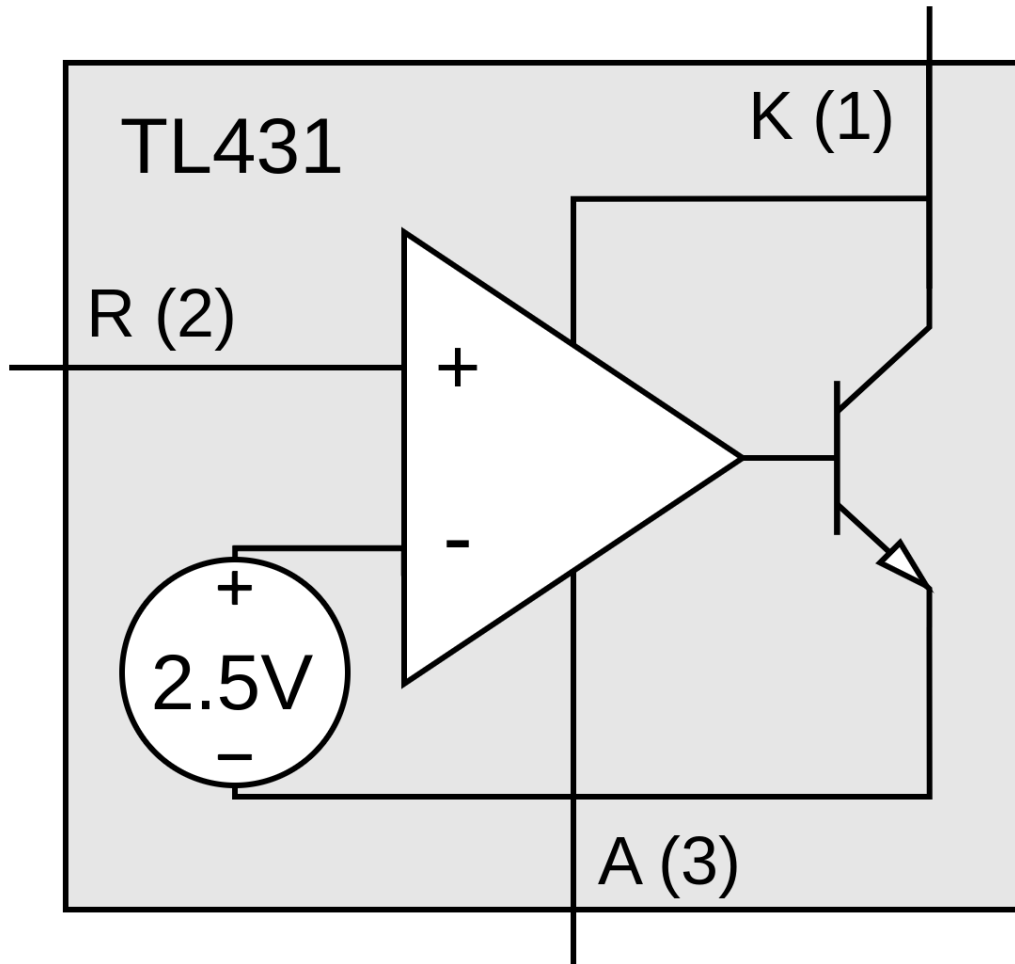

Figure 4.6: TL431 simplified internal circuitry
Datasheets for the TL431 typically call the device a shunt regulator, but is an incredibly versatile and widely used IC that only costs a few cents in volume. Just a few of the possible uses of the TL431 are as a linear regulator, comparator, amplifier, or voltage reference. In one of the largest commercial uses the TL431 is used for regulation on the secondary side of isolated switch-mode power supplies to drive an opto-coupler that controls the power stage on the primary side. A diagram of the internal circuitry of the TL431 is shown in Figure 4.6. The TL431 is a three terminal device containing an op-amp and voltage reference and is powered through the output (cathode) pin. The reference terminal (R) is connected to the positive input of